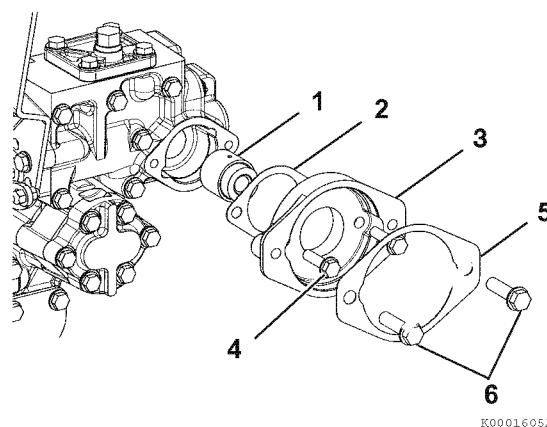

Figure 7-170
3. Insert the spline sleeve (1, **Figure 7-170**) onto the input shaft.
4. Use a new gasket (2, **Figure 7-170**), position the PTO flange with the M8 x 30 hex head bolts (3, **Figure 7-170**). Torque the hex head bolts (4, **Figure 7-170**) to 22.6 N·m (204 - 252 in-lb).
5. Install the PTO device with the M10x35 hex head bolts (6, **Figure 7-170**).